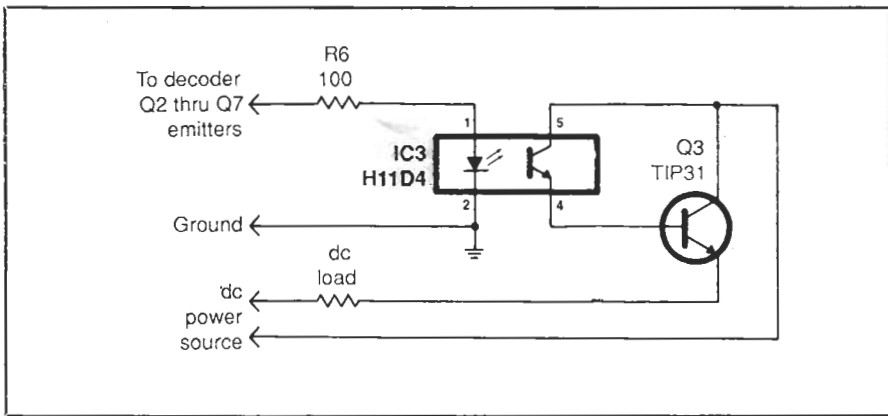
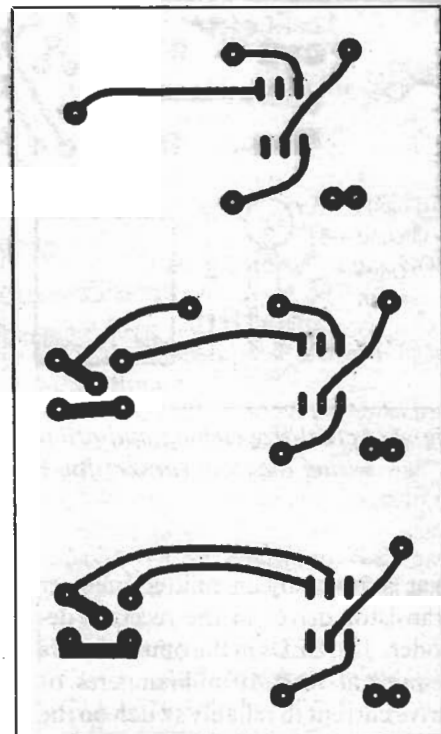
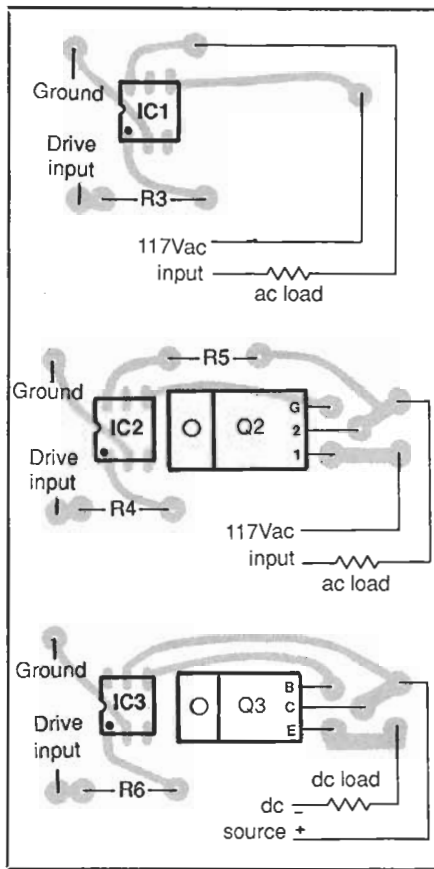
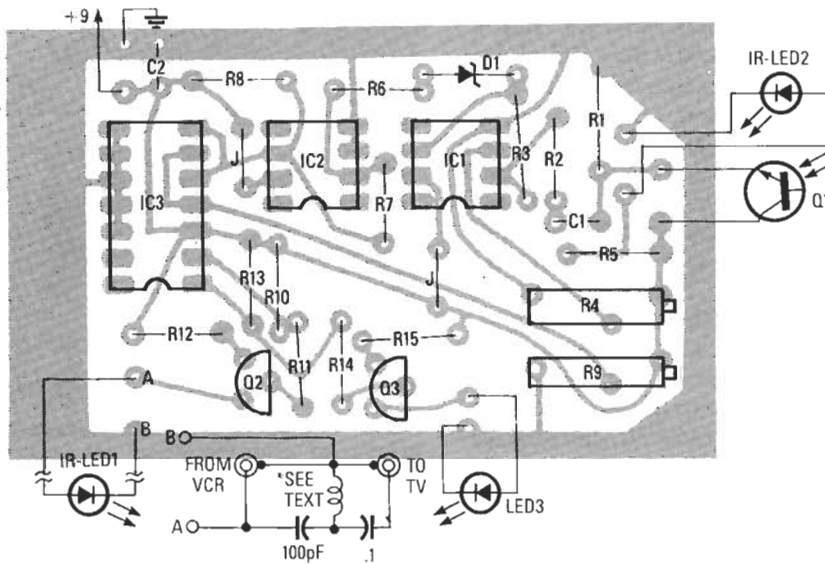

Fig. 5. This circuit controls power to a dc load using a Darlington transistor arrangement to handle up to 3 amperes of dc current.
Fig. 6. Actual-size pc guides for Fig. 3 circuit (upper), Fig. 4 circuit (center) and Fig. 5 circuit (lower).
Fig. 7. Printed-circuit wiring guides for Fig. 3 circuit (upper), Fig. 4 circuit (center) and Fig. 5 circuit (lower).
FIG. 3—PARTS-PLACEMENT DIAGRAM. Mount Q1 so that it can protrude through the project box. Either IR-LED1 or the filter circuit attaches to pads A and B.
You can build the solid-state driver circuits just discussed on printed-circuit boards made using the actual-size etching-and-drilling guides given in Fig. 6. Guides (A), (B) and (C) are for the Fig. 3, Fig. 4 and Fig. 5 circuits, respectively. Wiring guides for the three pc boards are shown in Fig. 7 and are (A), (B) and (C) keyed accordingly.
The Parts-Placement diagram is shown in Fig. 3. Be sure that pin 1 on all three IC's faces Q1, and mount Q1 with enough lead length (approximately 3/4-inch) so that it will be able to protrude through a hole in the project box. The flat side of Q1 (the collector) is connected to +9-volts DC. Mount IR-LED2 so that it can be positioned directly behind Q1 (that way it can emit a small amount of IR into the base of Q1 during low-light conditions), as shown in Fig. 4. The flat sides (the cathode) of D1, D2, and D3 are attached to ground.